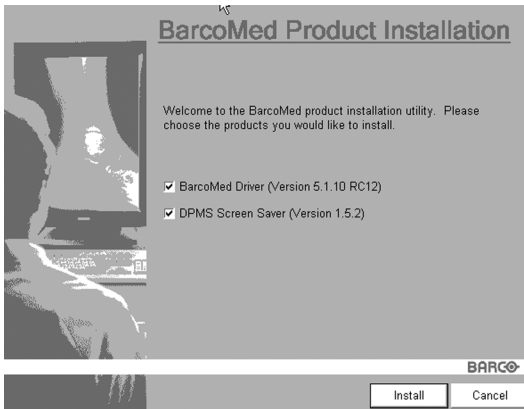

Figure 17
8. The BarcoMed Product Installation Wizard's Welcome Screen will be displayed (figure 17). By default all the software on the BarcoMed Software CD will be selected. For the initial installation we recommend that you install all of the software. If you do not want to install a particular BarcoMed Software product at this time, deselect it by clearing the checkbox next to it.